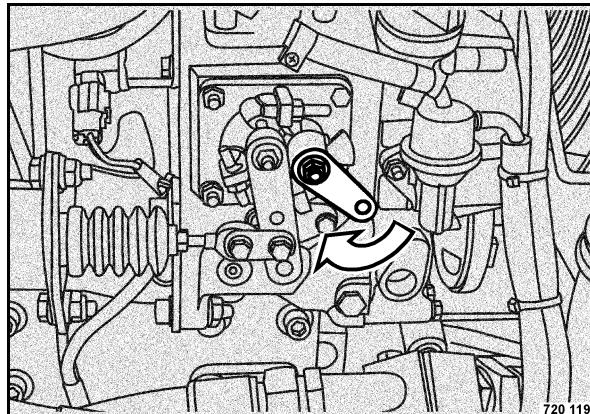

Fig. 55
- Keep the hand lever (Fig. 55) on the engine depressed, until the engine shuts down.